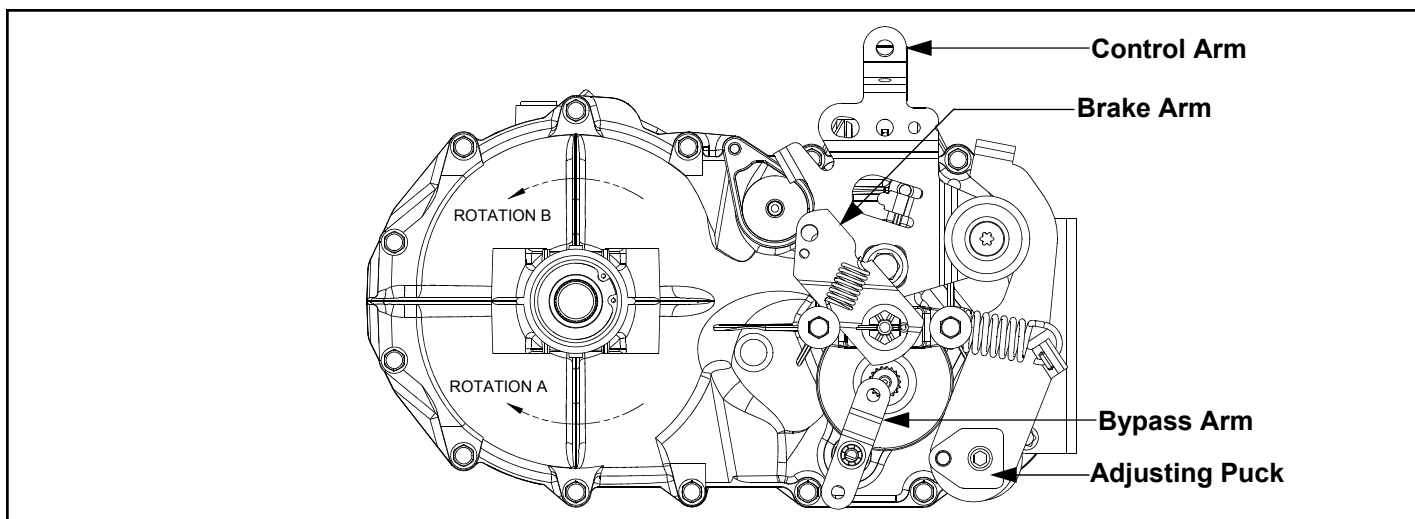

Figure 5. Return to Neutral, Foot Control
2. Remove the Original Equipment Manufacturer's (OEM's) control linkage at the control arm. Refer to Figure 5.
5. Stop the vehicle's engine. Reattach and adjust the OEM linkage according to the OEM manual. Recheck according to Step 3 and 4. Stop the vehicle engine. Refer to Figure 5.
6. Note the axle directional movement. Stop the vehicle engine. Loosen the adjusting puck screw until the puck can be rotated. Rotate the adjusting puck the opposite direction of the wheel rotation in 5 degree increments. Tighten the adjusting puck screw. Refer to Table 5. Required Torque Values, Page 15. Recheck according to steps 3 and 4. Stop the vehicle engine. Reattach and adjust the OEM linkage according to the OEM manual. Recheck according to steps 3 and 4. Refer to Figure 5.